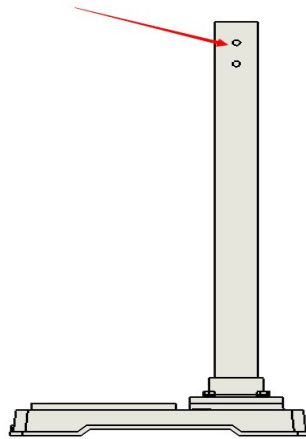

Figure 1
Step 2 Put the column in the base and let the two hole in the top of column turn to the left, an other one hole turn to the right; then tighten column to base . Figure 1